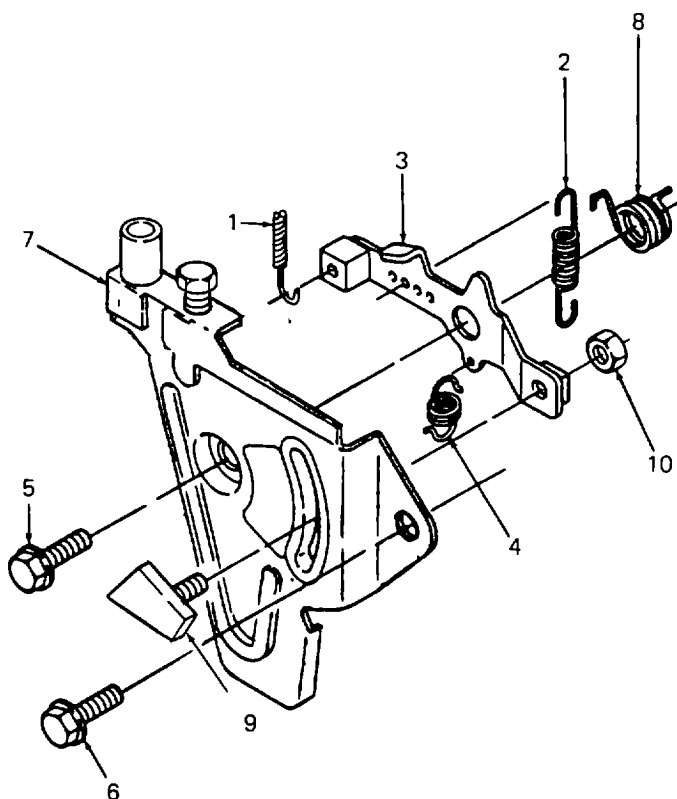
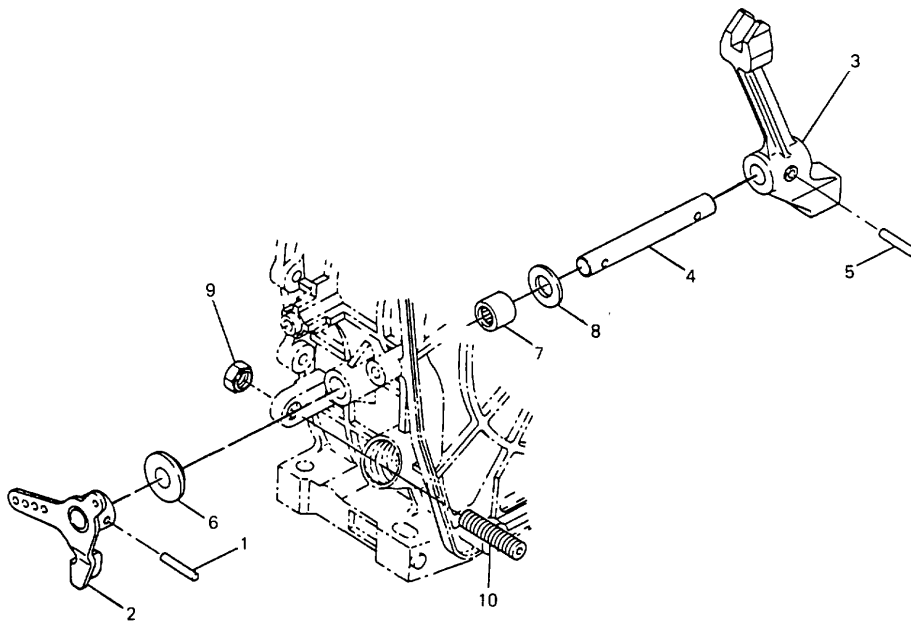
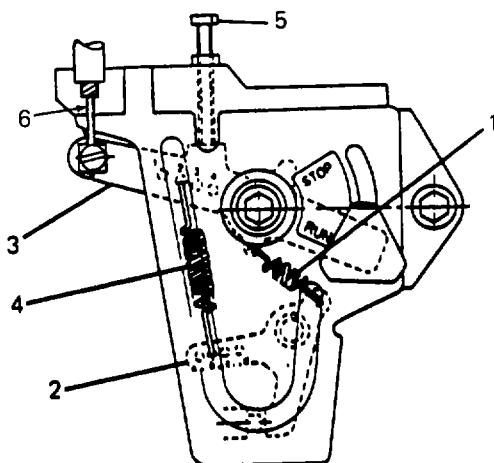

Figure 6-22. Speed Control Device Assembly
Figure 6-23. Governor Assembly
Figure 6-24. Speed Control Device Springs
REMOVAL: Refer to Figure 6-22.
(1) Remove throttle control inner wire (1) from the regulator lever (3).
(2) Remove regulator spring (2) from the governor lever and regulator lever (3).
(3) Remove return spring (4) from the governor lever and regulator lever (3).
(4) Remove mounting bolts (5 and 6).
(5) Remove regulator bracket (7) with regulator lever (3) attached.
(6) Remove regulator coil spring (8).
(7) Remove regulator lever (3) from regulator bracket (7) by unscrewing lever retainer (9) and self-locking nut (10).
b. Governor Assembly. Refer to Figure 6-23
- a. Governor Assembly. Refer to Figure 6-23.
- (1) Install fuel limiting adjustment (10) into crankcase.
- (2) Install nut (9) onto fuel limiting adjustment (10).
- (3) Install needle bearing (7) into cylinder block.
- (4) Insert shaft (4) into governor control arm (3) and lock into position with taper pin (5).
- (5) Install governor control arm (3), shaft (4), and washer (8) into needle bearing in engine from the inside.
- (6) Insert thrust bushing (6) onto shaft (4) in cylinder block.
- (7) Install control arm lever (2) onto shaft (4) and insert taper pin (1) into shaft.
- b. Speed Control Device. Refer to Figure 6-22.
- (1) Install regulator coil spring (8).
- (2) Mount regulator lever (3) to regulator bracket (7) using the retainer (9). Secure with self-locking nut (10).
- (3) Mount regulator bracket assembly (7) with mounting bolts (5 and 6).
- (4) Refer to Figure 6-24. Attach return spring (1) to the governor lever (2) and to regulator lever (3).
- (5) Attach regulator spring (4) to the second hole from the left on the governor lever (2) and connect spring to second hole from the left on regulator lever (3).
- (6) Attach throttle control inner wire (6) to regulator lever (3).
- (7) Lubricate all moving parts with lubricating oil.
- (8) Check engine RPM (3, 800 max unloaded, 3, 600 max loaded). Adjust bolt (5) until engine operates at proper RPM.